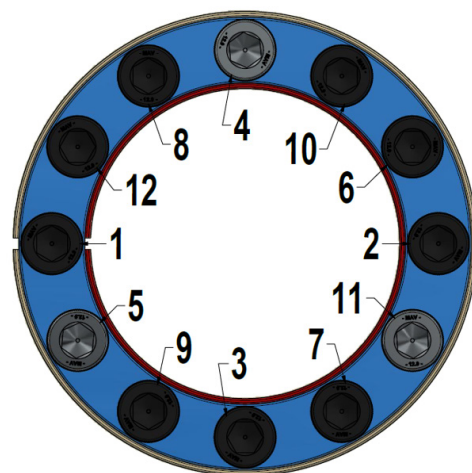

Fig. 3
4. Tighten the screws by hand in a crosswise pattern (fig. 3) until fitting clearances with shaft and hub bore are bridged and connected components are slightly locked, while making sure that hub is aligned as required using a dial indicator. Better centering of hub from the beginning of installation is essential for better centering when installation is completed.
5. Use a torque wrench set approx. 5% higher than specified tightening torque (Ma), or reduced within admissible value. Progressively tighten the screws in a crosswise pattern (fig. 3), using approx. 1/4 turns for several passes until 1/4 turns can no longer be achieved.